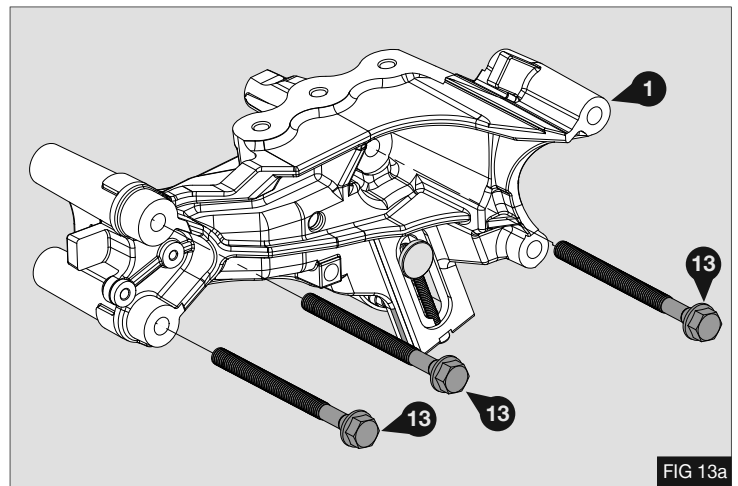

FIG 13a
2. Install the bracket assembly to the engine using 3x M10 x 125 bolts (13) - Figs 13a & 13b